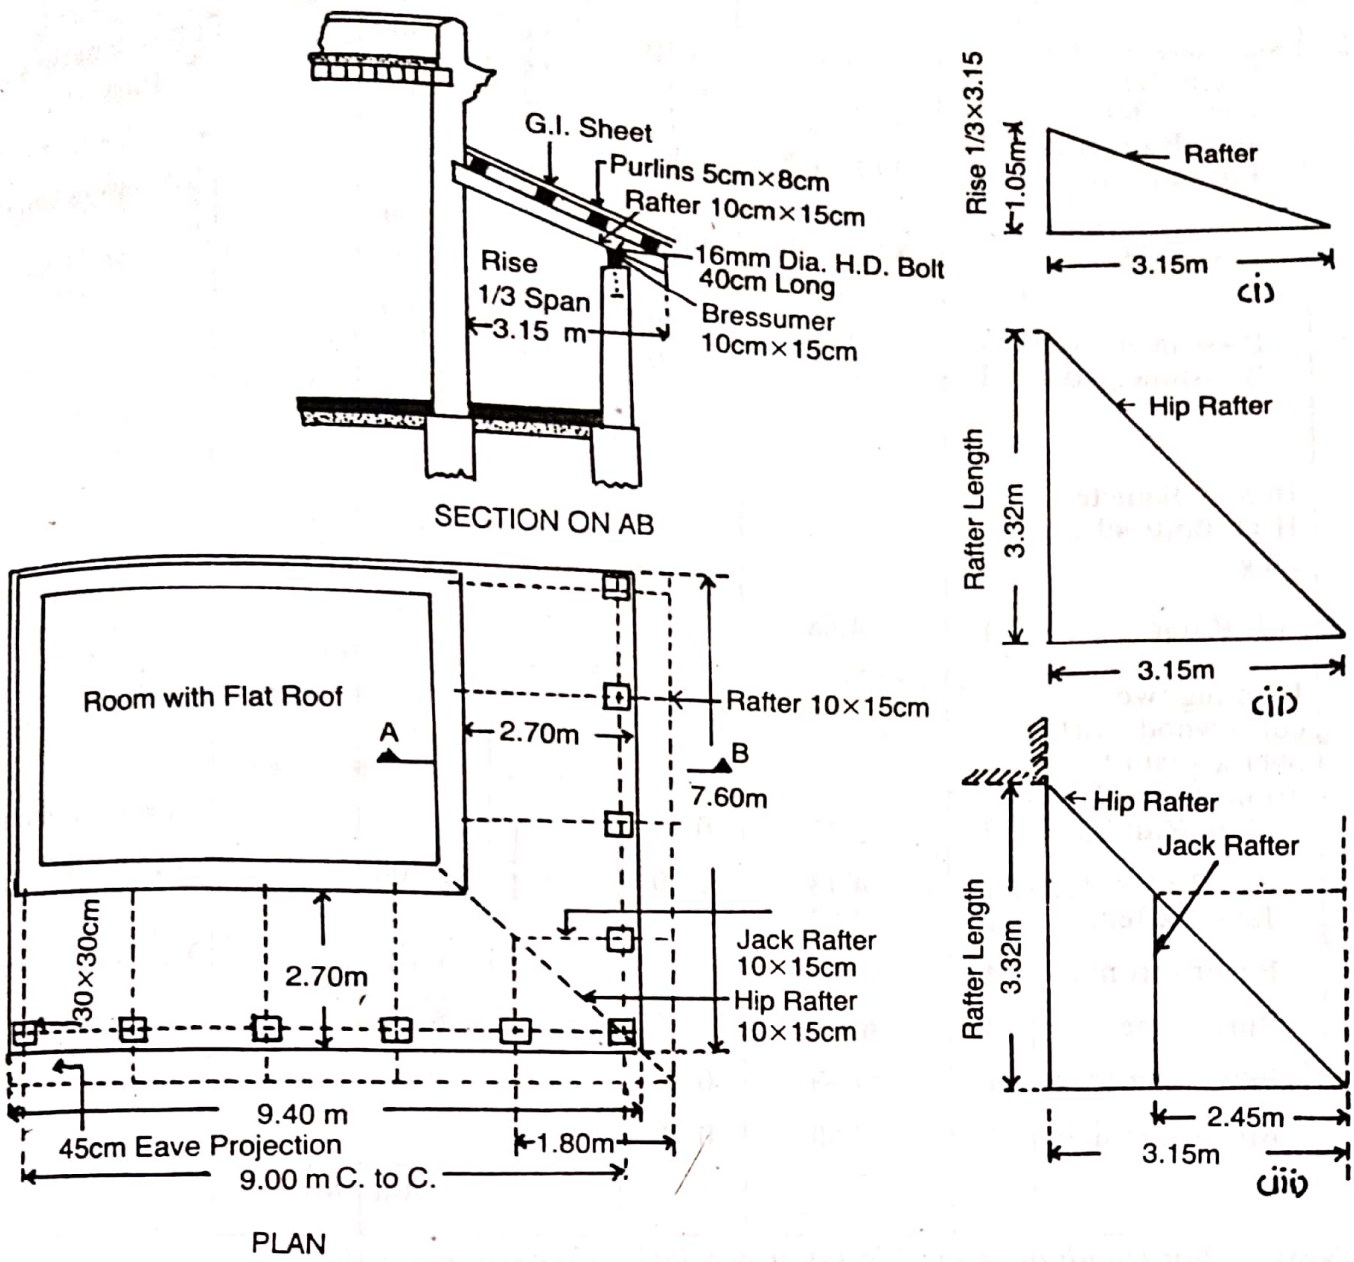

Fig. 4-5
- (1) Galvanized Corrugated Iron sheet (G.C.I. sheet)
- (2) Asbestos cement sheet (A.C. sheet)
- (3) Tiles,
- (4) Timber,
- (5) Planks, Thatch, and
- (6) Slate.
Q.2 Prepare a detailed estimate of the verandah roof of a building from the given plan and sectional drawing (Fig 4.5). The verandah roof consists of 24 B.G. G.I. sheet supported over salwood rafters and purlins. Woodwork shall be painted two coats over one coat of priming. Assume suitable rates.
Rafter - Fig 4.5 (a)
Hip rafter - Fig 4.5 (b)
Jack rafter - Fig 4.5 (ii)